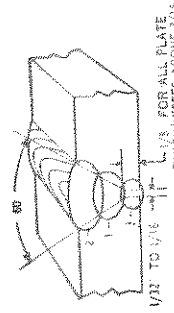

Fig. 2-36.
*Where the plates cannot be turned over, chip into bead 1 (Figure 2-36) and put the last pass in overhead with $\frac{5}{16}$ " E6010 or E6011 with the current adjusted to produce an electrode melt-off of approximately $\frac{8}{16}$ " per minute.